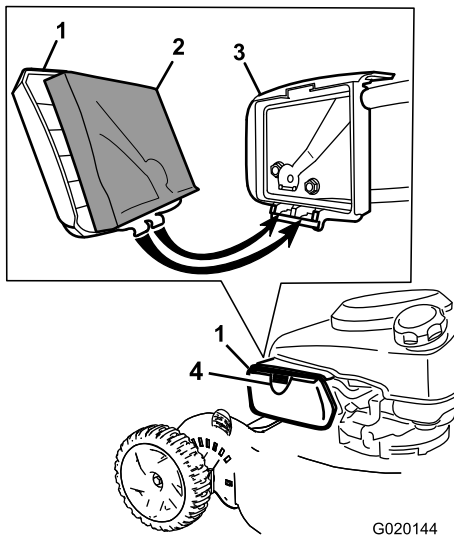

Figure 20
2. Press the button on the air cleaner cover (Figure 20) and open the cover.